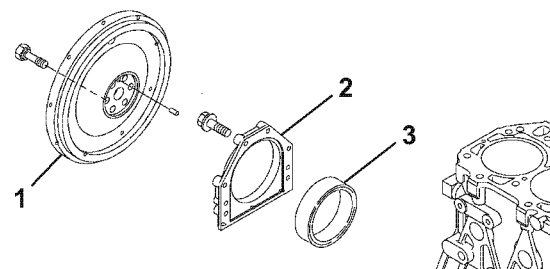

Figure 6-139
7. Apply ThreeBond Liquid Gasket No. 1212, YANMAR Part No. 977770-01212 to the mounting flange of the seal housing (2, **Figure 6-139**).
10. Reinstall the flywheel (1, **Figure 6-139**) and tighten the bolts to the specified torque. See *Special Torque Chart* on page 6-21 for specifications.